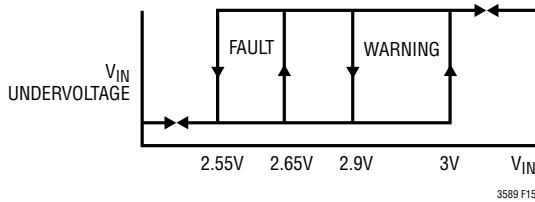

Figure 15. UV Detection Hard Reset and Warning Levels
The LTC3589 undervoltage (UV) detection circuit will output a fault condition, locking out regulator operation, until V_{IN} reaches 2.7V. Once V_{IN} is above 2.7V the LTC3589 will operate normally until V_{IN} drops to 2.55V (typical). When V_{IN} drops below 2.55V, the fault condition initiates a hard shutdown reset. Figure 15 shows undervoltage warning and fault detection levels.